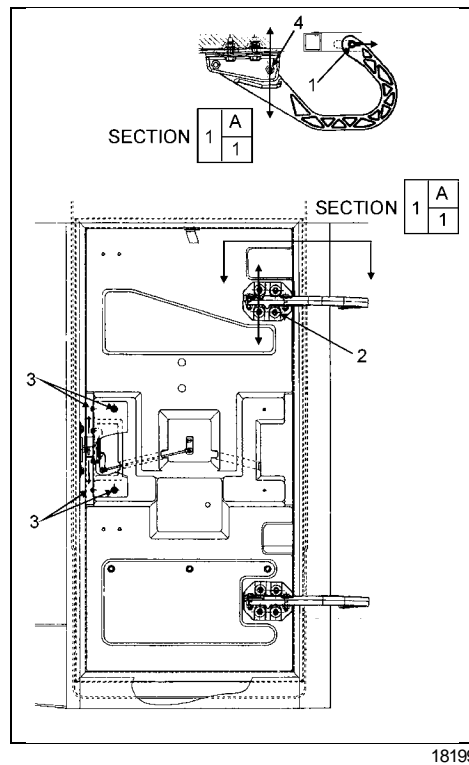

FIGURE 39: MAIN POWER COMPARTMENT AND REAR ELECTRIC COMPARTMENT
2. Loosen nut (1, Fig. 39). Move the hinge as shown in figure. Tighten nut (1, Fig. 39).
3. Loosen nut (4, Fig. 39). Hinge allows the door to be shifted "IN or OUT" and "LEFT or RIGHT". Adjust the door lin accordance with the required distance between exterior finition parts (Fig. 18).
4. Loosen the screws (2, Fig. 39). Screws allows the door to be shifted "UP or DOWN". Adjust the door position according to the distance needed between exterior finishing parts (Fig. 18). Tighten the screws.
To adjust the latch mechanism, open the door to access the screws holding the latch mechanism to the door panel. Loosen the screws (3, Fig. 39) and move the latch assembly as needed. Tighten the screws. Check door fit and operation.